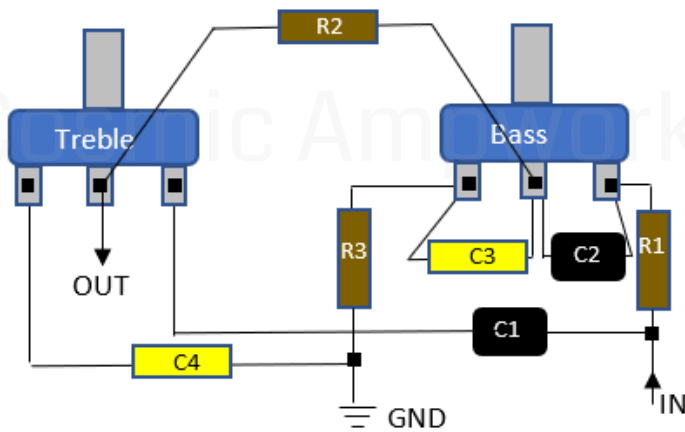
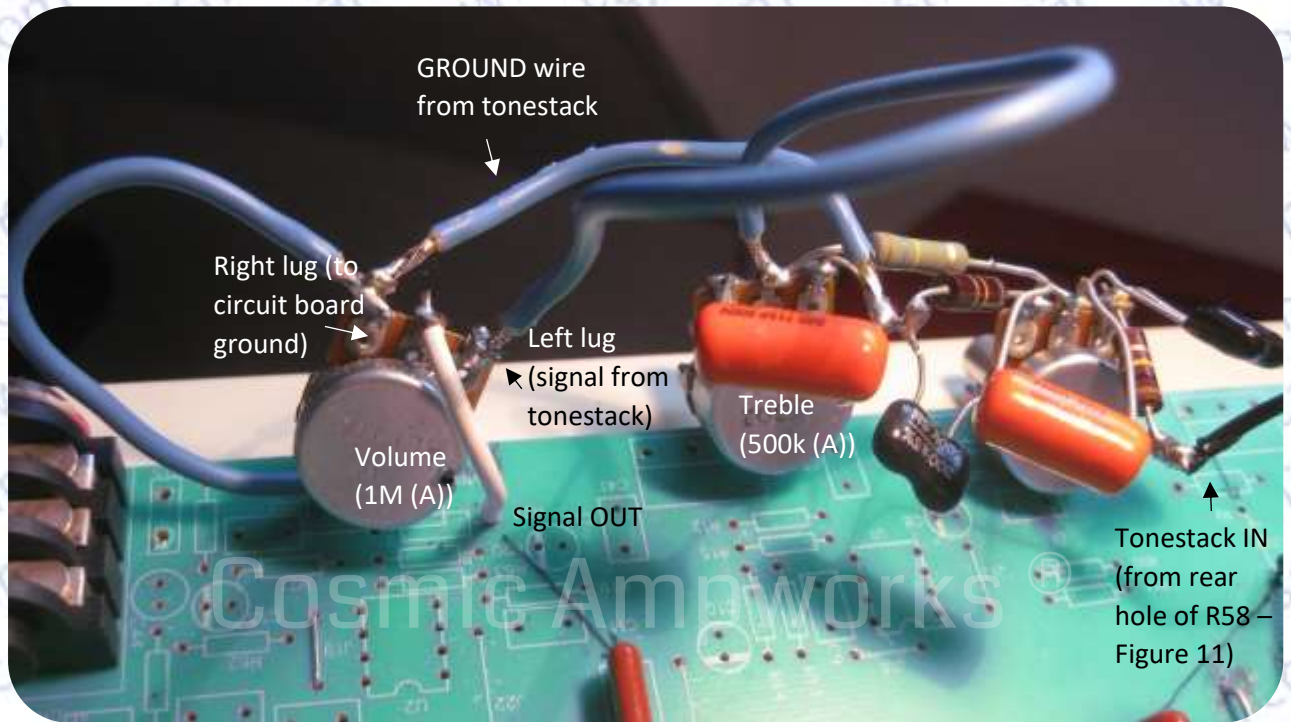

Figure 13. Layout of a James tonestack on the back of two potmeters. Soldering lugs are pointing upwards (as in Figure 14 below).
Figure 15. Tonestack and volume control assembly.
- a. Solder a point-to-point James tonestack on the back of two potmeters (Figures 13, 14). First connect the two pots with R2 (180k); the appropriate distance (i.e. the distance between the mounting holes in the front of the chassis) can then be set and maintained. The component values are:
- i. Treble pot: 500k (A); Bass pot: 1M (A)
Figure 14. James tonestack for the GA15 (NOTE: "orange drop" capacitors used here, instead of yellow "mustard" caps). As this is only a 2-dimensional picture, parts may seem connected that are not; for soldering best rely on Figure 13. Also refer to Figure 15.
- i. Solder the wire from the center (wiper) lug of the tonestack treble pot to the left lug of the volume pot (*NOTE: seen from the back, as in Figure 15, it's the right lug*).
- ii. Connect the ground wire from the tonestack (from the junction of R3 [10k] and C4 [3.3n] of the tonestack; Figures 13-15) to the right lug of the volume pot (*NOTE: it's the left lug if seen from the back, as in Figure 15*). **Before soldering**, also connect a short piece of some 5 cm of wire to that lug. Then solder.
- iv. Solder the signal ("OUT") wire from the center wiper of the volume control to the left hole of the removed R24 (Figure 15, "signal out").